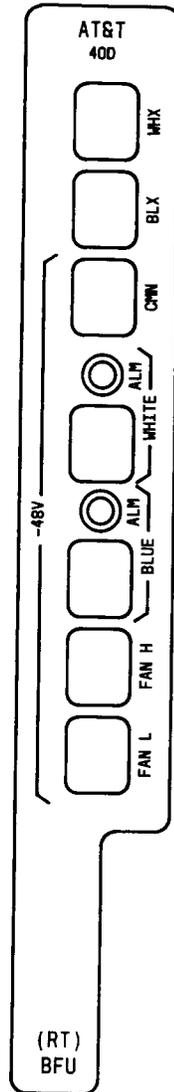

Fig. 1—40D Bank Fuse Unit
5. Get one **40D BFU** (Figure 1).